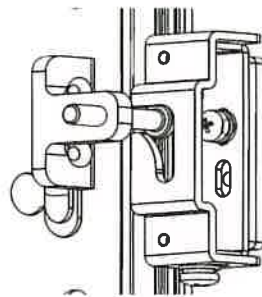
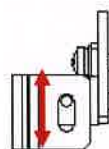

Fig. 7
Fig. 8
2)The lock is debugged before leaving the factory. If the dead bolt does not smoothly engaged with the striker as Fig. 7, the striker can be adjusted up and down as Fig. 8.